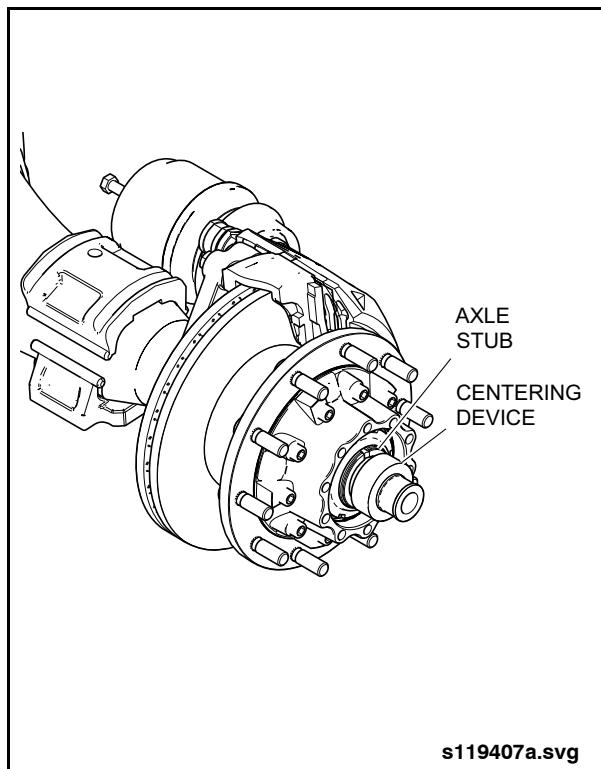

Fig. 2-14: Inserting Centering Device
1. Insert the centering device into the axle stub until it stops. See "Fig. 2-14: Inserting Centering Device" on page 18.